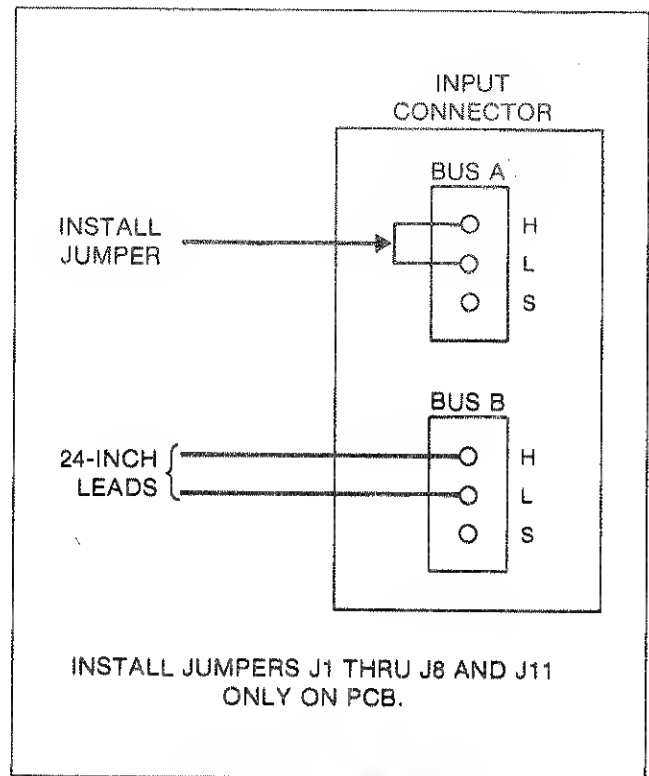

Figure 200-3. Test Cable
1. Fabricate a test cable and connector as shown in Figure 200-3.